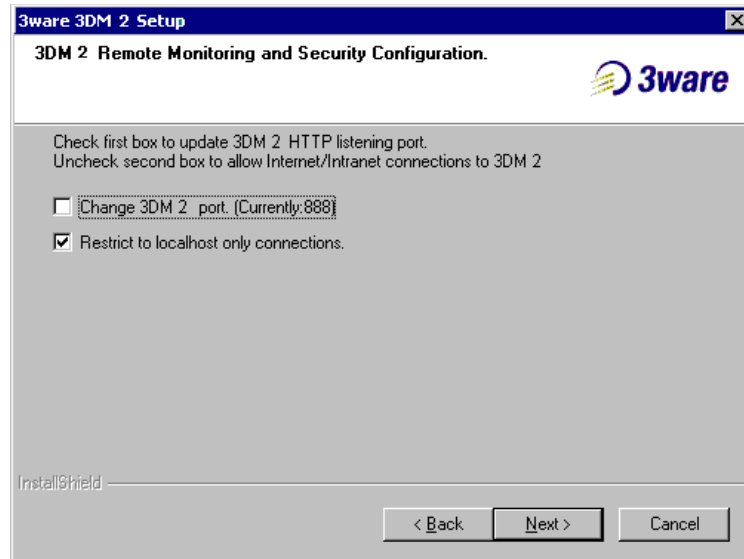

Figure 10. 3DM Remote Monitoring and Security Configuration Display
- 4 On the **3DM Remote Monitoring and Security Configuration** screen (see Figure 10), use the settings to specify these things: